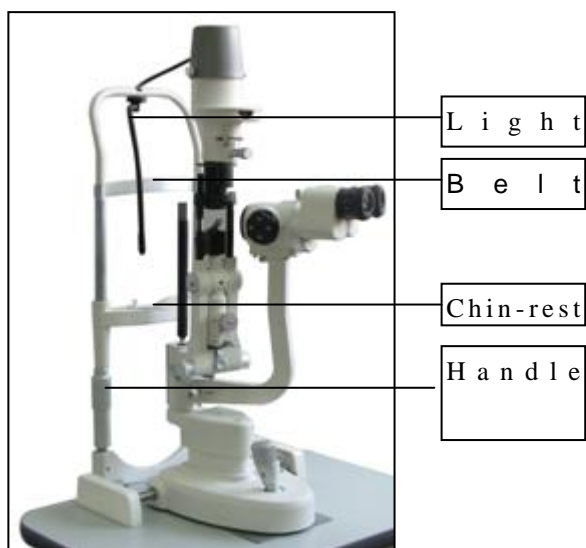

Fig.3.2.1
19. Check the fixation target device to confirm it is lighted. Ensure it can be normally lighted (Fig.3.2.1)
Place the patient's chin on the chin-rest with the forehead against the forehead-rest belt. Adjust the chin-rest elevation adjustment knob below the chin-rest until the patient's can thus align with the horizontal mark (Fig.3.2.1).
- ③ **Cleaning and sterilizing the plastic parts:** Clean the plastic parts such as chin-rest bracket, forehead-rest belt with soft cloth dipped with soluble detergent or water, then sterilize with medicinal alcohol. **Attention: Don't wipe with any corrosive detergent lest that the surface should be damaged.** (Fig.3.2.1).